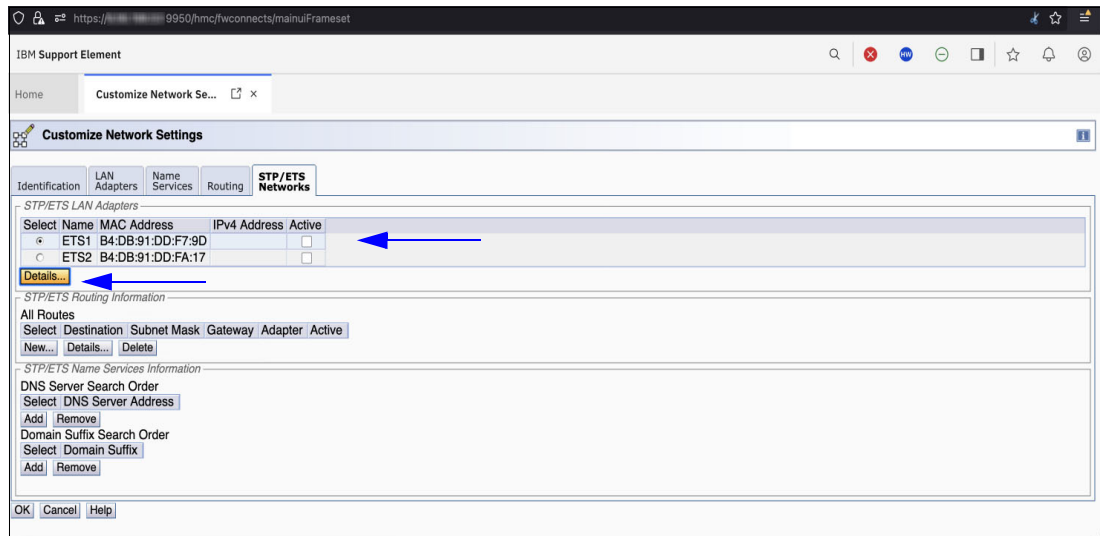

Figure 4-2 ETS interfaces configuration start
1. Configure the ETS interfaces IP addresses ("Details"), as shown in Figure 4-2 on page 69.